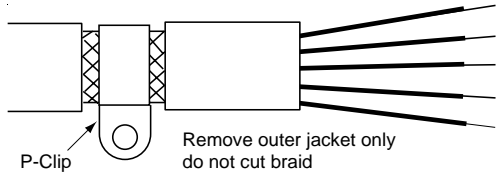
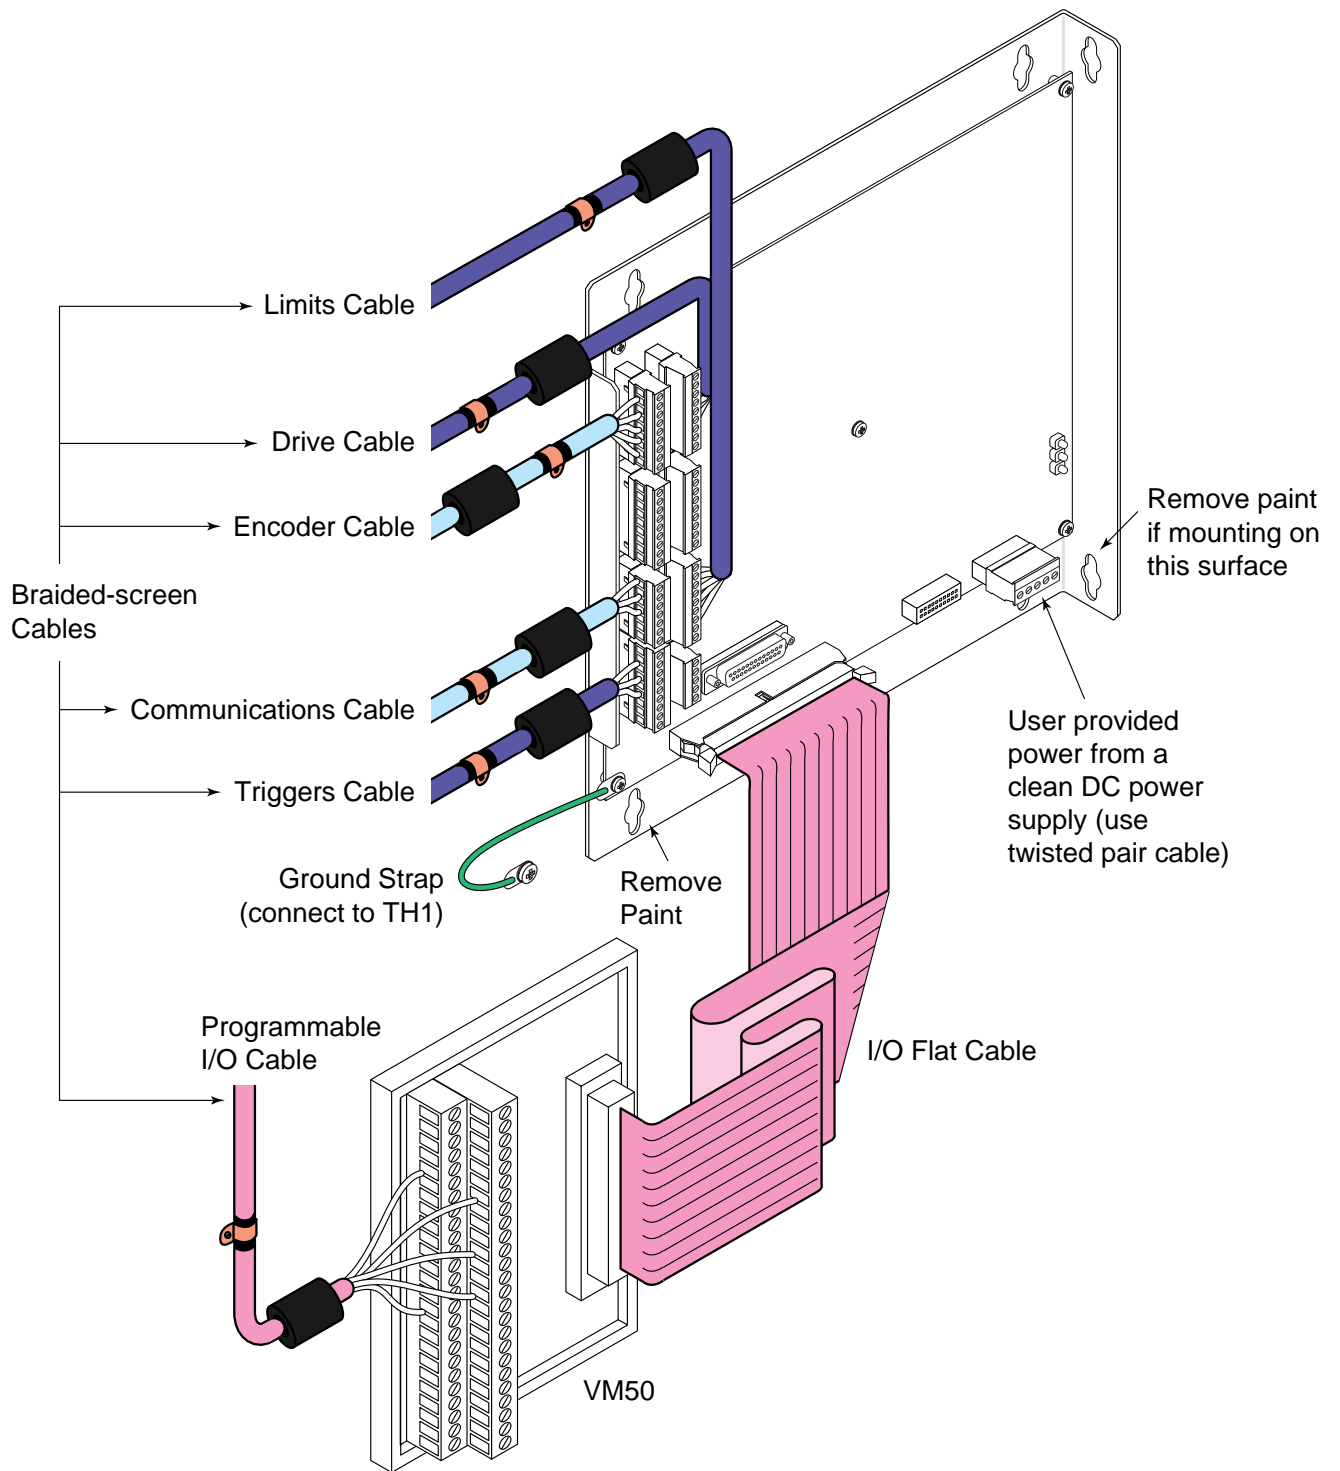

Figure 2. P-Clip Installation
Figure 3. EMC Connections for OEM6250
When installing a P-clip (see Figure 2), install as close to the cable end as possible, provided a suitable ground, backplane, earth stud or bus bar is accessible, (this may mean removing the paint from a cabinet or panel). Remove only the outer (vinyl) jacket of the braided screen
Preparing the OEM6250: The OEM6250 must be mounted to a conductive panel. Before mounting the OEM6250, remove the paint from the rear face of the mounting hole that will be closest to the input filter location as shown in Figure 3 below, and if necessary from the corresponding area on the rear panel of the enclosure. This is to guarantee a good high-frequency connection between the drive case and the cabinet. After mounting the unit use petroleum jelly on the exposed metal to minimize the risk of future corrosion.
High-quality braided screen cable should be used for control connections. In the case of differential outputs, it is preferable to use a cable with twisted pairs to minimize magnetic coupling. A connection is made to the cable screen at the controller end by exposing a short length of the braided screen and anchoring this to earth using a P-clip (see Figure 2). Fit a ferrite absorber close to the I/O connector and run the cable down to the mounting panel as shown in Figure 3.
**50-Pin Ribbon Cable:** It is recommended when using the 50-Pin Ribbon Cable I/O found on the OEM6250 that you use a terminal break-out box such as the VM50 or VM24 (see Figure 3). Mount the VM50 close to the OEM6250, keeping the ribbon cable as short as possible. Bundle any excess ribbon cable and secure close to a panel wall. Individual I/O points will require the use of individually shielded cable runs, with braids bonded to the panel (close to VM50) with a P-clip.
**Communications:** In applications that require serial communications with the OEM6250, take special care to use proper wiring practices. Use good quality braided screen cable for the communication cabling. No connection is made to the cable screen at the OEM6250 itself. Fit a ferrite absorber close to the communications connector and run the cable down to the mounting panel as shown in Figure 3. Expose a short length of the braided screen and anchor to the panel with a P-clip. Avoid routing communication cables near high power lines and sources of high energy impulses.